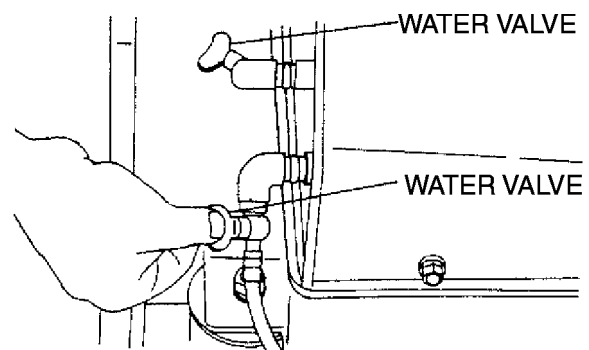

Figure 23. Water Valves
1. To operate water sprinkling system, turn on the front and rear water valves on the side of the roller. (Figure 23).